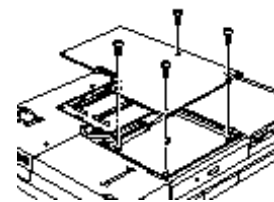

Figure 4-14 Opening the Memory and MPEG Upgrade Compartment
5. Remove the 4 screws of the memory and MPEG upgrade compartment. (Figure 4-14.)